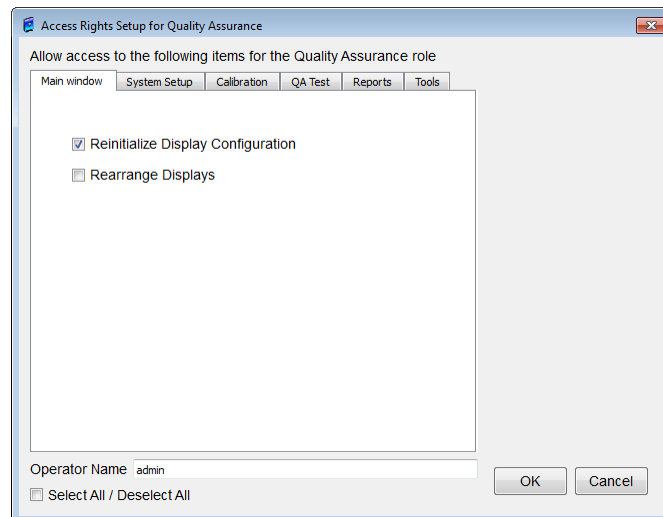
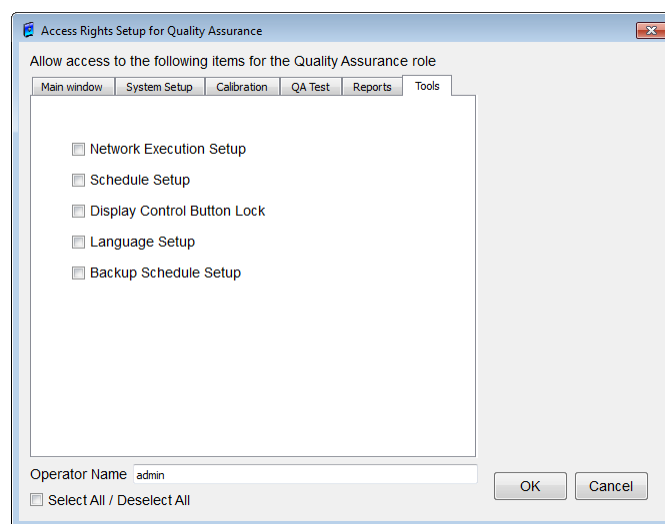

Figure 107: Access Rights Setup for Quality Assurance dialog box (Main window)
Figure 112: Access Rights Setup for Quality Assurance dialog box (Tools)
Click **Access Rights Setup for Quality Assurance** in **Administrator** to display the **Access Rights Setup for Quality Assurance** dialog box, see **Figure 107**. This function can allow or prevent access to various functions in the **Quality Assurance** in **Technician** level (**Standard User** level). Access to functions can be allowed or prevented by checking or un-checking the boxes. **Figure 107** to **Figure 112**, show the checked and un-checked boxes by default when the program is installed.
- **Main Window tab (Figure 107)**
● **Tools tab (Figure 112)**